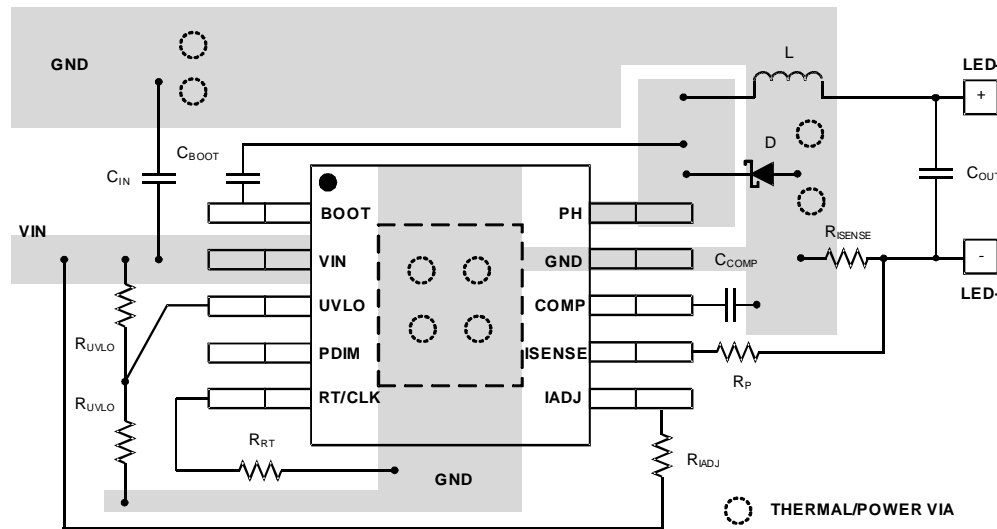

图 17. Layout Example
An example of a proper layout for the TPS92512 is shown in 图 17. Creating a large GND plane under the integrated circuit (IC) for good electrical and thermal performance is important.